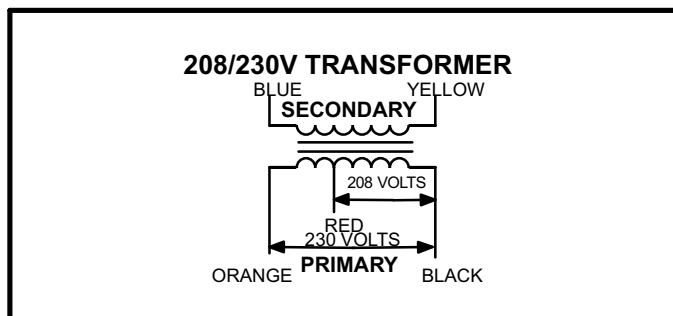

FIGURE 5
All use a single line voltage to 24VAC transformer mounted in the control box. Transformer supplies power to control circuits in the unit. The transformer is rated at 70VA and is protected by a 3.5 amp circuit breaker (CB8). The 208/230 (Y) voltage transformers use primary voltage taps as shown in figure 5, while 460 (G) and 575 (J) voltage transformers use a single primary voltage tap.